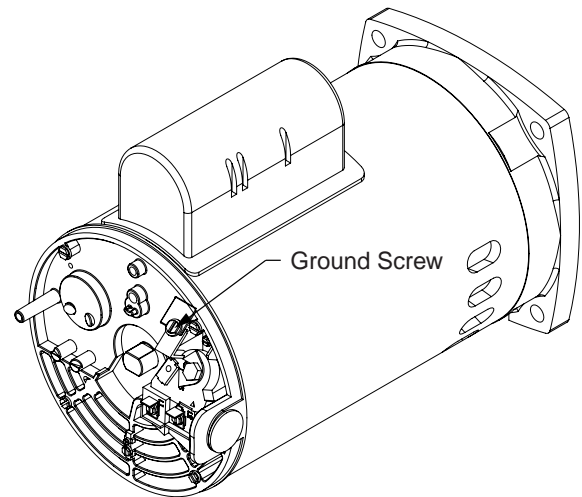

Figure 1. Field Wiring Compartment
5. Permanently ground the motor using the green ground terminal located on the inside of the motor canopy or access plate, see Figure 1. Use the correct wire size and type specified by National Electrical Code. Make sure the ground wire is connected to an electrical service ground.